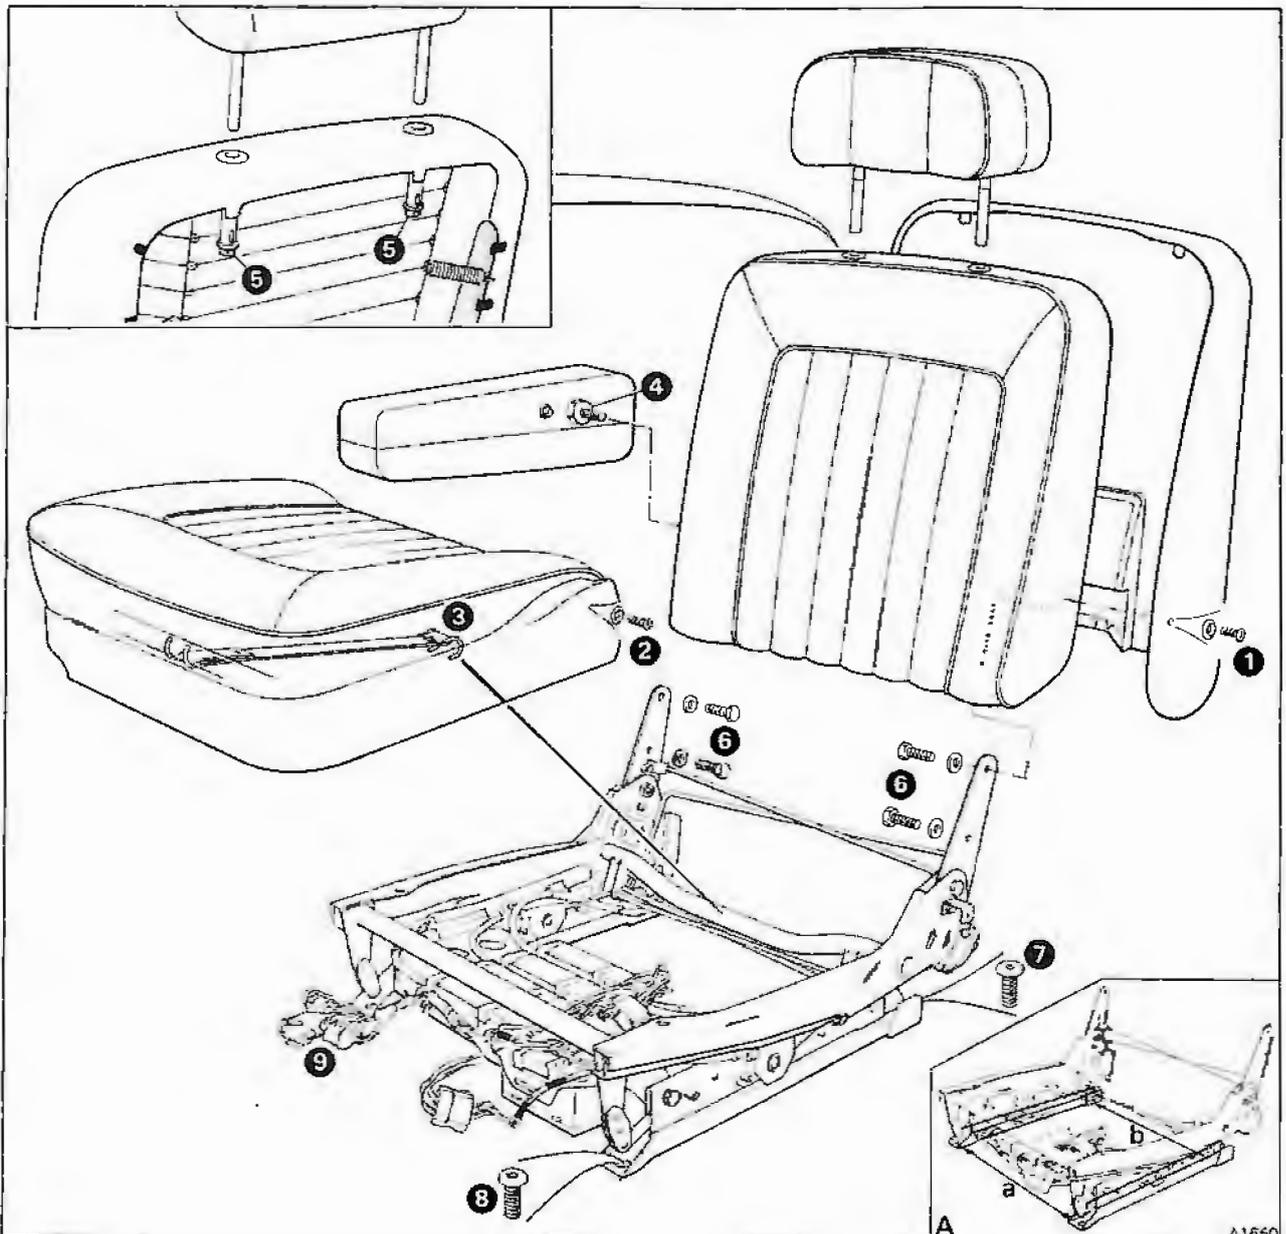

Fig. S13-1 Front seat trim and mounting arrangement
Front seat cushion and valance assembly – To remove and fit (see fig. S13-1)
(see fig. S13-1)
Front seat squab – To remove and fit (see fig. S13-1)
2. Prior to tightening the seat base securing socket screws, ensure that the distance between the left-hand and right-hand seat slide is correct (see fig. S13-1, inset A).
3. Torque tighten the socket screws (items 7 and 8) to between 48 Nm and 54 Nm (4,9 kgf m and 5,5 kgf m; 36 lbf ft and 40 lbf ft). The socket screws should be tightened in the following sequence. Rear inboard, rear outboard, front inboard, and front outboard.